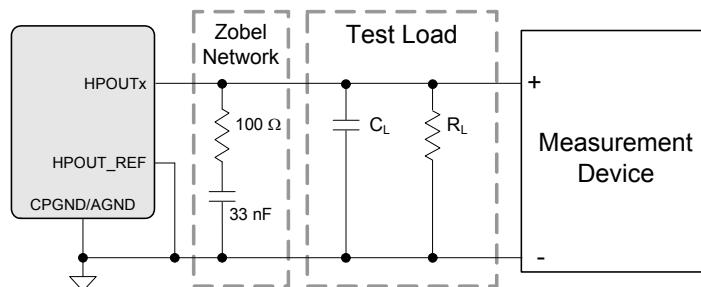
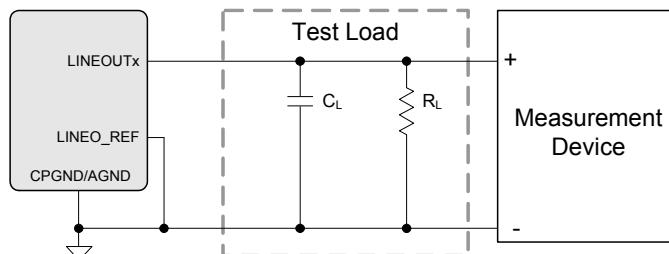

Figure 5. Headphone Output Test Configuration
Figure 6. Line Output Test Configuration
Test conditions (unless otherwise specified): "Typical Connection Diagram" on page 17 shows CS42L73 connections (including Zobel Networks on outputs); Input test signal is a 24-bit full-scale 997-Hz sine wave with 1 LSB of triangular PDF dither applied; GND = AGND = PGND = CPGND = DGND = 0 V; all voltages are with respect to ground (GND); VA = VCP = 1.80 V; TA = +25 °C; VCP Mode; Measurement Bandwidth is 20 Hz to 20 kHz; Fs = 48 kHz (Note 10); ASP is used and is in slave mode with Fs_{ext} = 48 kHz; test loading is configured as per Figure 5 on page 28 (RL and CL (= CL_(Max)) as indicated in the table below); Mixer Attenuation and Digital Volume = 0 dB, Digital and Analog Mutes are disabled.
Test conditions (unless otherwise specified): “Typical Connection Diagram” on page 17 shows CS42L73 connections (including Zobel Networks on outputs); Input test signal is a 24-bit full-scale 997-Hz sine wave with 1 LSB of triangular PDF dither applied; GND = AGND = PGND = CPGND = DGND = 0 V; all voltages are with respect to ground (GND); VA = VCP = 1.80 V; TA = +25 °C; VCP Mode; Measurement Bandwidth is 20 Hz to 20 kHz; Fs = 48 kHz (Note 10); ASP is used and is in slave mode with Fs_{ext} = 48 kHz; test loading is configured as per Figure 5 on page 28 (RL and CL (= CL_(Max)) as indicated in the table below); Mixer Attenuation and Digital Volume = 0 dB, Digital and Analog Mutes are disabled.
35. Figure 5 on page 28 and Figure 6 on page 29 shows headphone and line output test configurations.
Test conditions (unless otherwise specified): Connections to the CS42L73 are shown in the "Typical Connection Diagram" on page 17; Input test signal is a 24-bit full-scale 997 Hz sine wave with 1 LSB of triangular PDF dither applied; GND = AGND = PGND = CPGND = DGND = 0 V; all voltages are with respect to ground (GND); VA = VCP = 1.80 V; TA = +25 °C; VCP Mode; Measurement Bandwidth is 20 Hz to 20 kHz; Fs = 48 kHz (Note 10); ASP is used and is in slave mode with Fs_ext = 48 kHz; test loading is configured as per Figure 6 on page 29 (RL and CL as indicated in the table below for RL(Min) and CL(Max)); Mixer Attenuation and Digital Volume = 0 dB, Analog Gain = +2 dB; Digital and Analog Mutes are disabled.